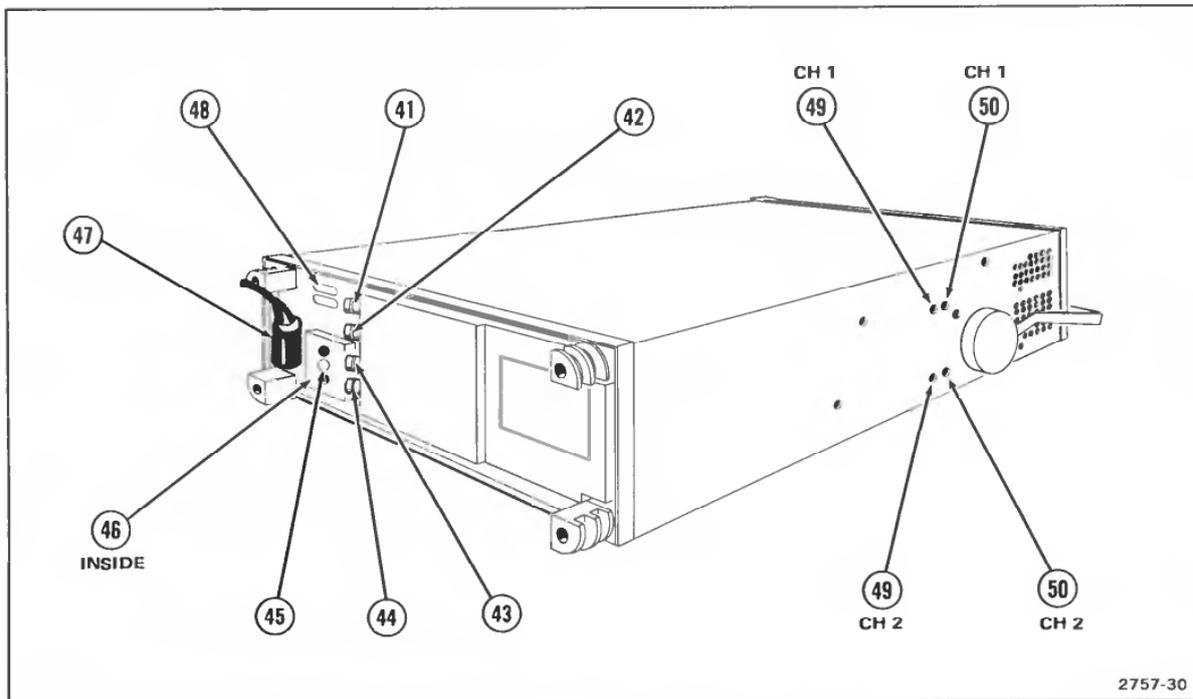

Figure 2-7. Rear panel and left side panel controls, connectors, and indicators.
Refer to Figure 2-7 for location of items 41 through 50.